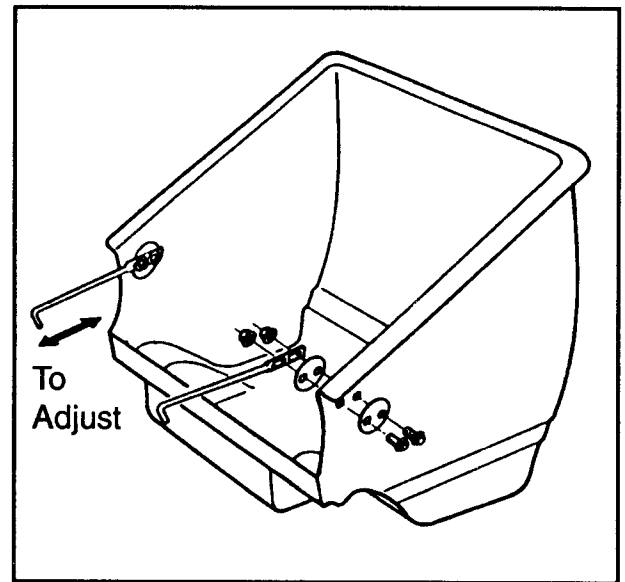

Fig. 3
1. SEE FIG. 3: Loosen catcher hook, nuts and bolts. Remove front nut and bolt from each catcher hook. Then raise catcher hooks and fasten both hooks with the bolts. Leave bolts loose until catcher is adjusted for proper clearance from the reel blades.